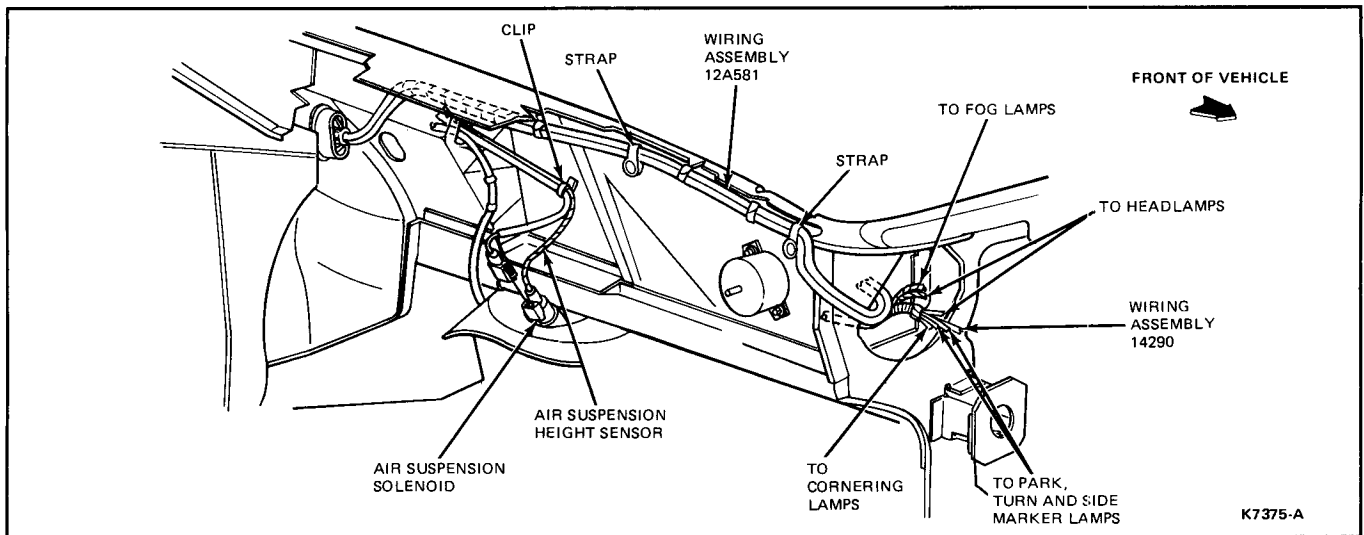

FIG. 4 RH Fender Apron Wiring
3. Disconnect wiring harness 14290 from connections in the RH fender apron area (Fig. 4). Disconnect harness from RH cowl side wiring.